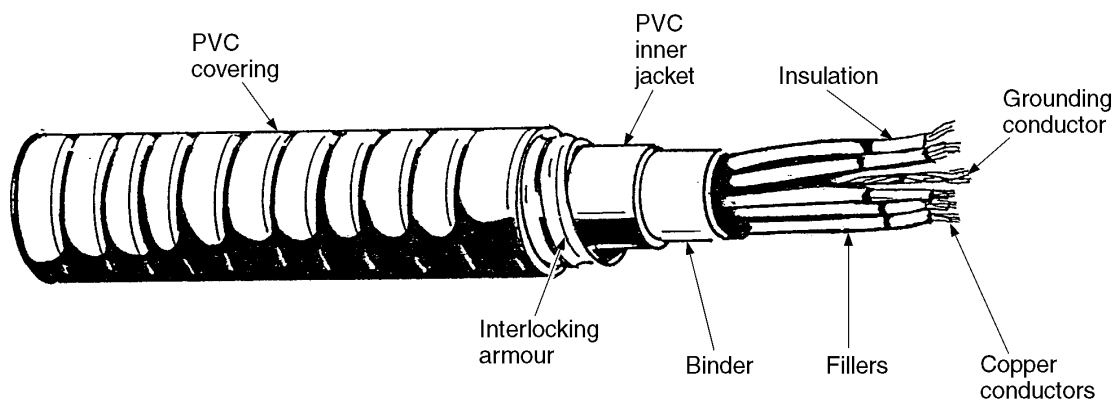

Figure 4—TECK 90 cable construction
- TECK is a special type of armoured cable that is very popular for service installations and exposed wiring in other adverse conditions. TECK cable is available in single-conductor or multi-conductor form, typically in voltage ratings of 600 V, 1 kV or 5 kV. The insulated conductors are usually standard colour-coded. There are types suitable for use down to -40°C . Construction of TECK 90 cable is shown in Figure 4.